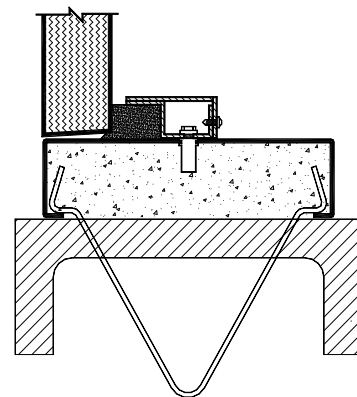

FIGURE 3
- 4. Installation In New Masonry Partitions (Fig. 3).** Instructions for this type wall are not significantly different from those above other than the actual anchorage to the wall and grout fill which takes place as the wall is erected. Special precautions should be taken to prevent the head and jambs from bowing during grout fill.